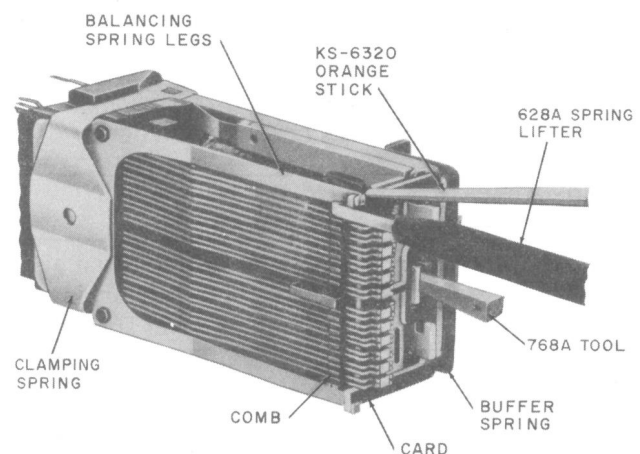

Fig. 3—AL-Type Relay—Disengaging Balancing Spring From Card
3.07 Disengage the balancing spring legs from the card as follows: Block the relay operated, using the 768A blocking tool. Holding the 628A balancing spring lifter in the left hand, insert the spring lifter next to the upper leg of the balancing spring with the end of the lifter just behind the comb. Roll the end of the lifter under this leg of the spring so the spring rests in the groove of the lifter. Then draw the lifter forward to the position shown in Fig. 3. With the right hand,